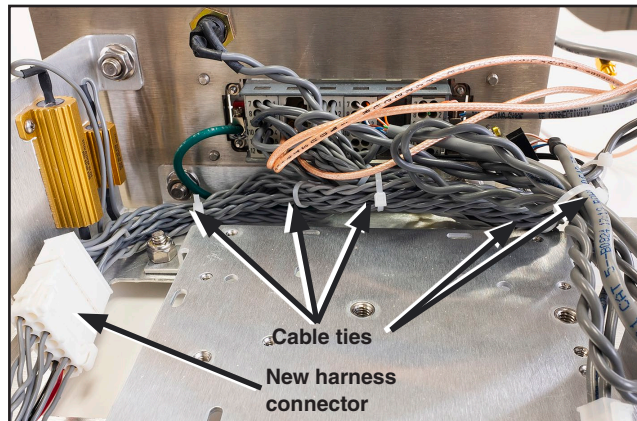

Figure 10. The re-bundled cable harness and cable ties.
- STEP 1.** Fold the harness that was connected to the R0 circuit board as shown in Figure 10 and secure it with the indicated cable ties.
- STEP 2.** Plug the new harness into the existing harness connector. See Figures 10 and 11.